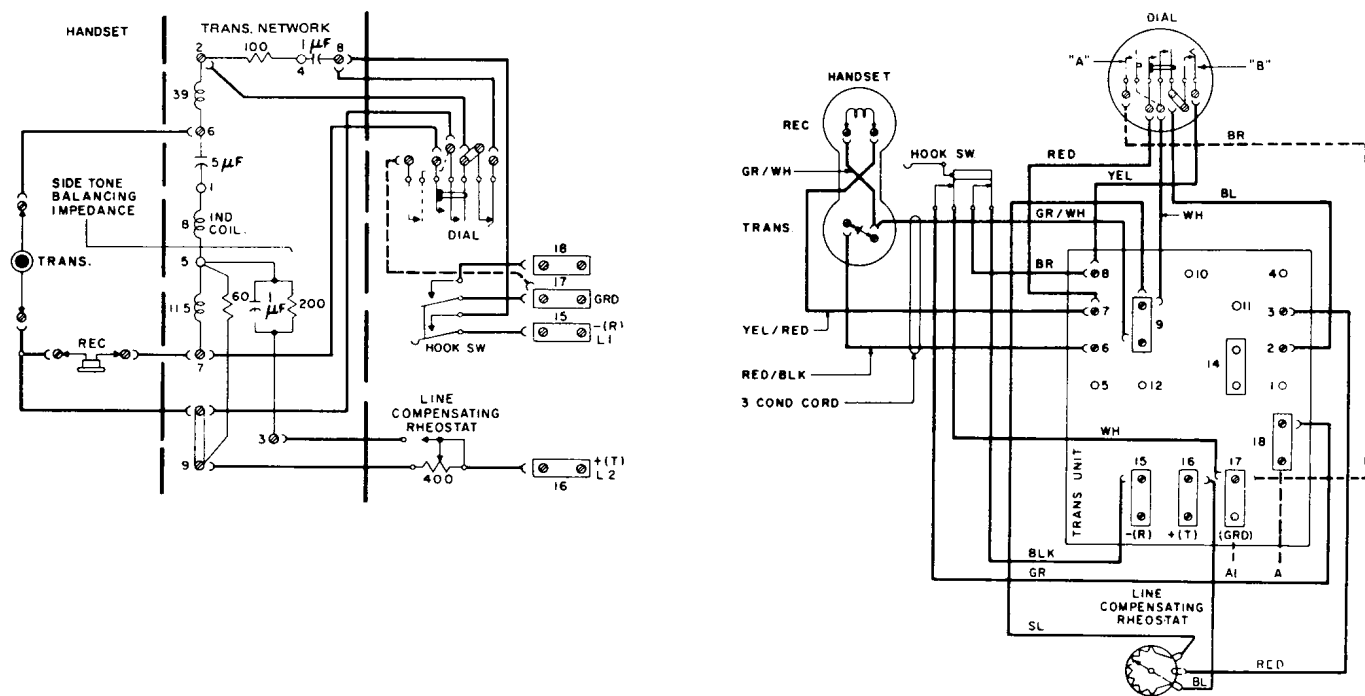

Figure 3. Schematic and Wiring Diagram for the Manually-Adjusted Type 183 Telephone Equipped With D-38387-C Transmission Network.
2.03 Type 183 telephones equipped with manually-adjusted series rheostats require no modification prior to installation on a key system line because they are already arranged for A-lead control at network terminals 17 (A1) and 18 (A), as shown in Figure 3.